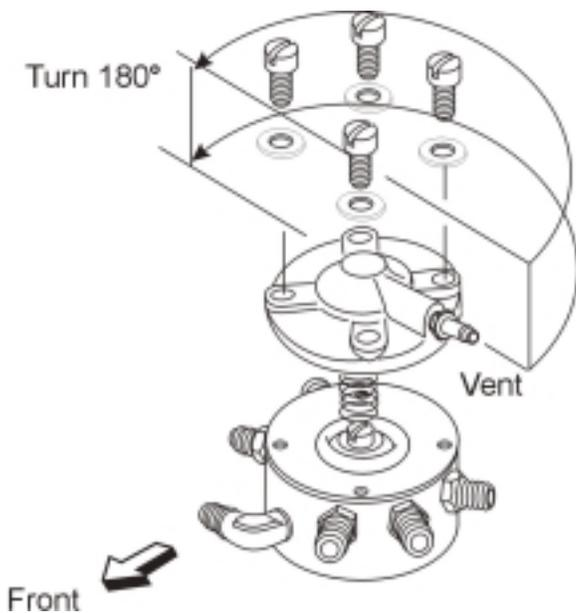

Figure 1.
- a. Remove the lockwire, screws and washers from the top of the flow divider assembly. (Figure 1.)
- b. With the cap vent pointing left, slightly lift the manifold cap, making sure that it is separated from the diaphragm. Then carefully rotate it until cap vent points right. (180° from original position.) (Figure 1.) Be sure that the spring held in place by the cap is not dislodged.